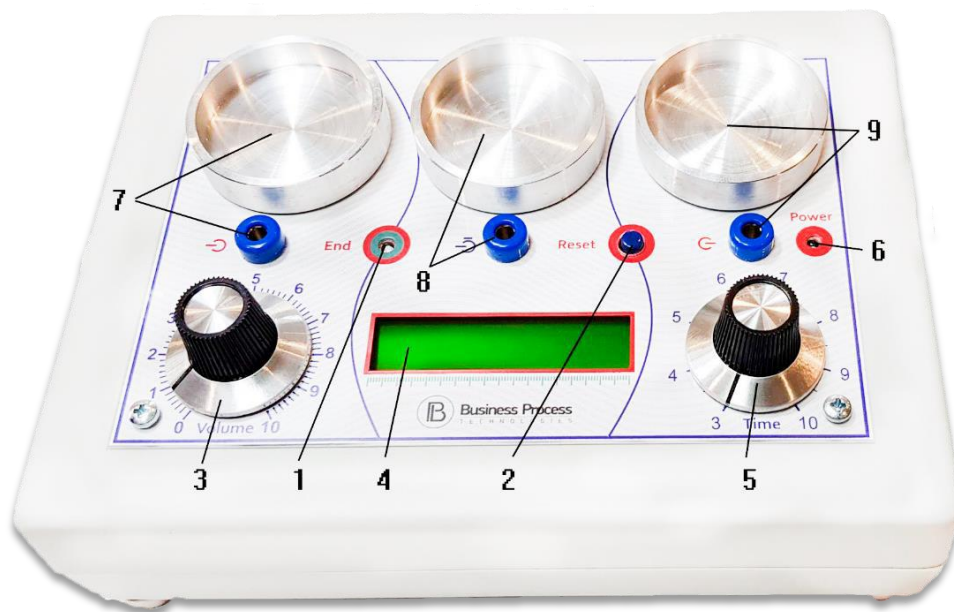

Fig.1
The device has the following jacks, indicators and controls, shown in Fig. 1:
4. To get a copy of a preparation from the Life Expert Profi base, connect a corresponding cable to the output socket on the right side of the Life Expert Profi to the input socket of a reprinter No. 7 or 8 (Fig. 1).